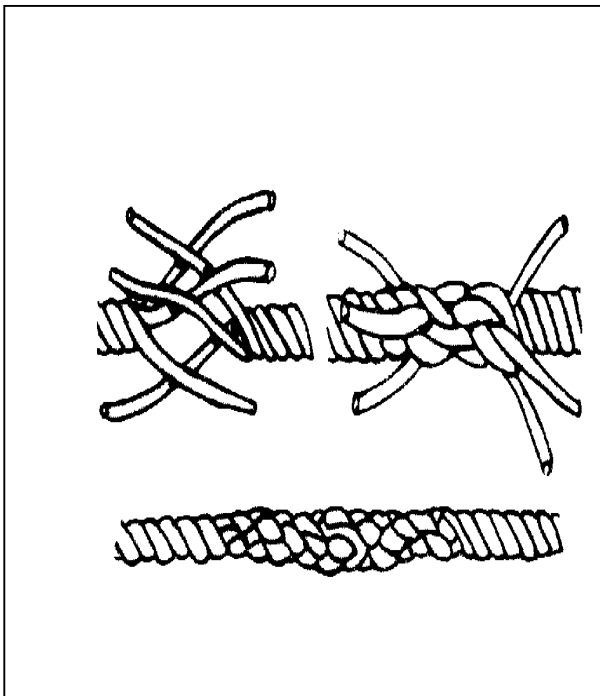

Figure 11-7. Short splice
i. **Short Splice.** A short splice (Figure 11-7) is the strongest way to join two lines. Unlike the long splice, it increases the diameter of the line so that it may not be able to pass through rings, grommets, and other tent hardware. A short splice is made by untwisting a short section at the end of two lines and interweaving the strands so that they form one line.